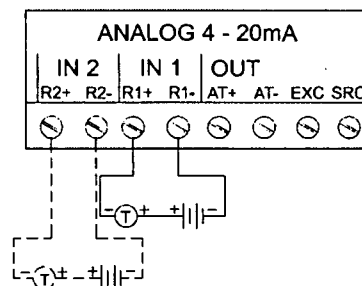

Figure 37: External Excitation—Two Wire.
2. If the analog input is to be wired as in Figure 37, it is preferable to earth the negative leg of the loop supply. Check the manuals of your transducer and power supply to determine if this will be acceptable.